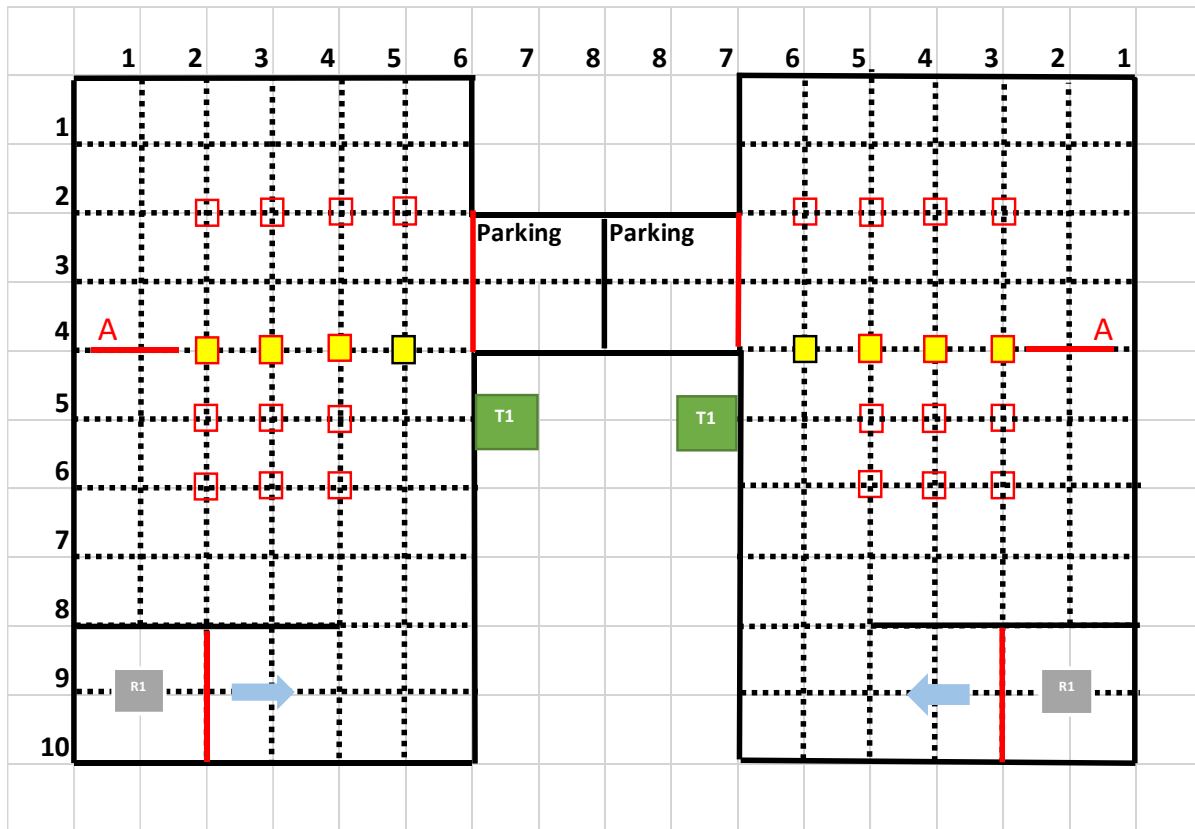

Figure 1: Contest Arena top view
The NERC 2024 theme is continuation of 2023 based on precision agriculture with focus on autonomous robots that can simulate Fruit Harvesting tasks. In this theme, there will be a robot that is acting as the harvester robot, its job is to pluck fruits from the tree. Fruits are represented with orange colored ping pong balls respectively. The first team to successfully collect all the desired fruits and reach the parking spot will be declared the winner. The Contest arena is shown in Figure 1. Details are as follow:
1. Laminated wooden sheets (lasani) are used for the construction of the arena. The floor of arena will be of white color as shown in the map (Fig. 1). All the boundary walls and separation walls have a height of 5 inches throughout the arena. The solid line made with black tape of 3cm width (Dotted Line in Fig 1) present on the floor of arena can be used for line tracking. The entire arena is divided into 12x12 inch grids.
2. The starting position and orientation of the robots are fixed. The robot must be placed behind the starting line shown in Fig. 1 with red color. The complete robot should be behind the line. The red colored line is only for reference in Fig. 1, it will be a solid black colored line on actual arena.
10. After successful collection of fruit, the robot(R1) will move towards the Parking spot as marked in the arena shown in Figure 1. However, after collecting fruit the robot must cross the highlighted region/red line on row 4 (labelled as A for reference only). The red line labelled as A in row 4 is only present in Fig 1 for reference, it will not be present on actual arena.
11. The team to successfully complete all the tasks and reach the parking spot will be declared the winner. A successful “reach” means all the parts of the robots have crossed the parking entrance line (represented with red color in Fig.1) and no part is on and above the line. The
red colored line is only for reference in Fig. 1, it will be a solid black colored line on actual arena.
- Robot must cross the region/red line labelled as A (label and red line are made in Fig 1 for reference only).